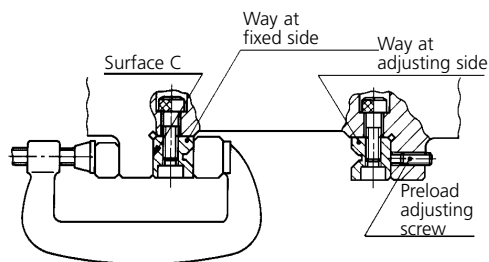

Fig. 4 Mounting of ways at table side
4. Mounting of ways at table side (Fig.4)